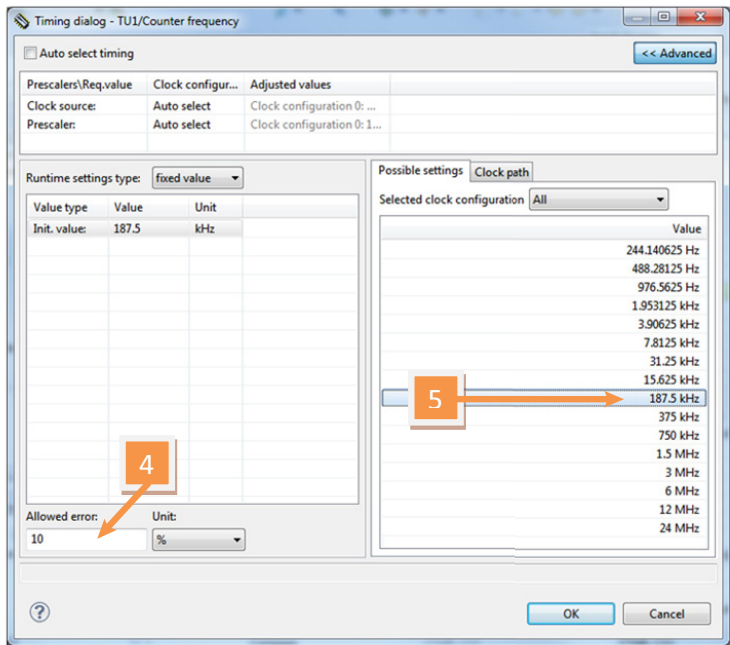

Figure 24. Component TimerUnit\_LDD timing dialog—Select Input Frequency
- d) Set the **Allowed Error** value at 10% (see Figure 24).